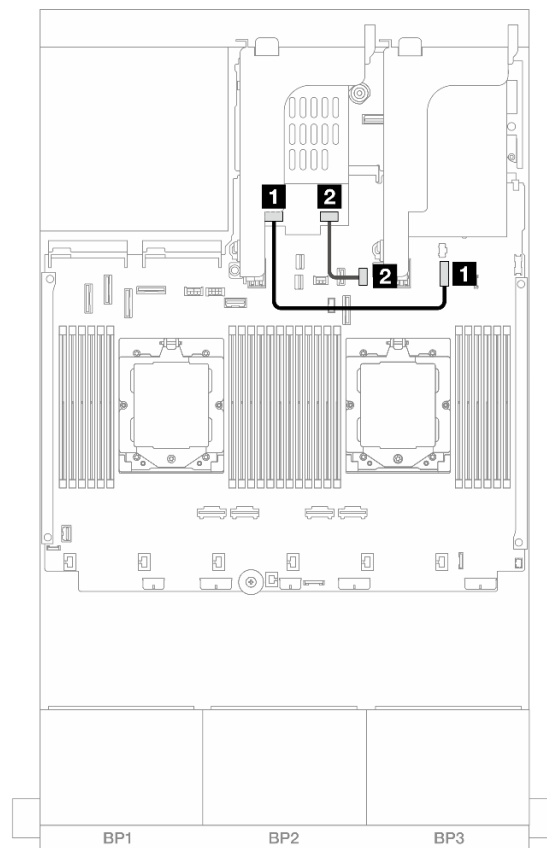

Figure 306. SATA cable routing
- Figure 306 “SATA cable routing” on page 312